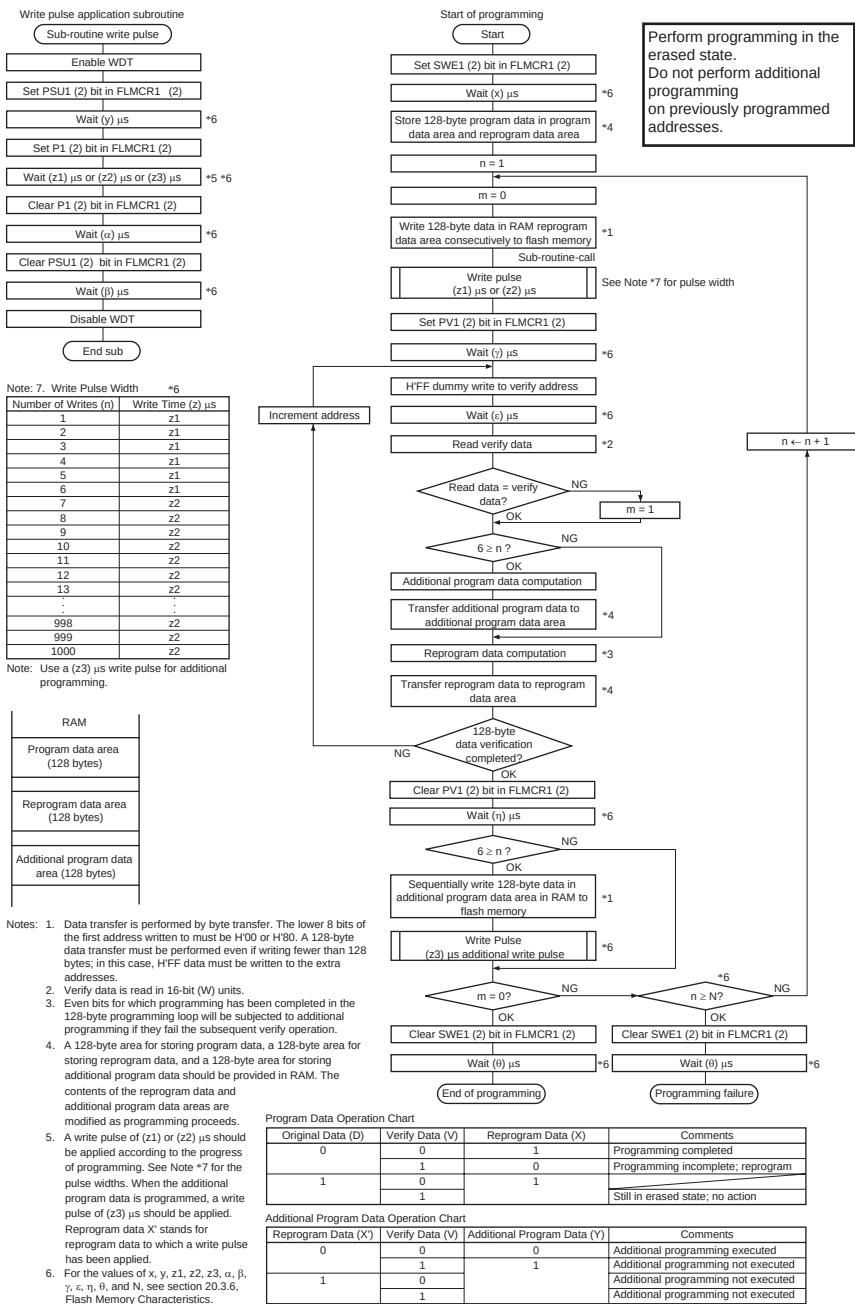

Figure 17.45 Program/Program-Verify Flowchart
Follow the procedure shown in the program/program-verify flowchart in figure 17.45 to write data or programs to flash memory. Performing program operations according to this flowchart will enable data or programs to be written to flash memory without subjecting the device to voltage stress or sacrificing program data reliability. Programming should be carried out 128 bytes at a time.
After the elapse of a given programming time, the programming mode is exited (the Pn bit in FLMCRn is cleared to 0, then the PSUn bit is cleared to 0 at least  $(\alpha) \mu\text{s}$  later). Next, the watchdog timer is cleared after the elapse of  $(\beta) \mu\text{s}$  or more, and the operating mode is switched to program-verify mode by setting the PVn bit in FLMCRn. Before reading in program-verify mode, a dummy write of H'FF data should be made to the addresses to be read. The dummy write should be executed after the elapse of  $(\gamma) \mu\text{s}$  or more. When the flash memory is read in this state (verify data is read in 16-bit units), the data at the latched address is read. Wait at least  $(\epsilon) \mu\text{s}$  after the dummy write before performing this read operation. Next, the originally written data is compared with the verify data, and reprogram data is computed (see figure 17.45) and transferred to the reprogram data area. After 128 bytes of data have been verified, exit program-verify mode and wait for at least  $(\eta) \mu\text{s}$ , then clear the SWEn bit in FLMCRn to 0, and wait again for at least  $(\theta) \mu\text{s}$ . If reprogramming is necessary, set program mode again, and repeat the program/program-verify sequence as before. However, ensure that the program/program-verify sequence is not repeated more than (N) times on the same bits.